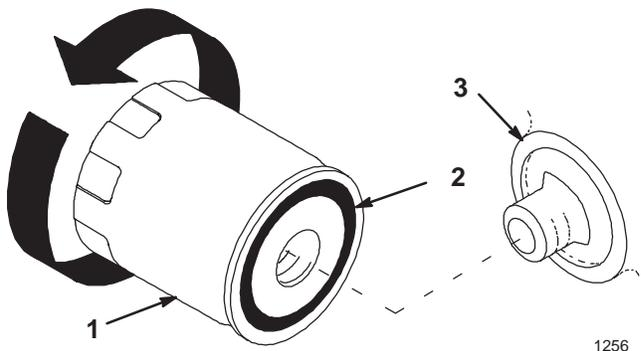

Figure 24
2. Remove the old filter and wipe the filter adapter (Fig. 24) gasket surface.
3. Apply a thin coat of new oil to the rubber gasket on the replacement filter (Fig. 24).
4. Install the replacement oil filter to the filter adapter. Turn the oil filter clockwise until the rubber gasket contacts the filter adapter, then tighten the filter an additional 1/2 turn (Fig. 24).